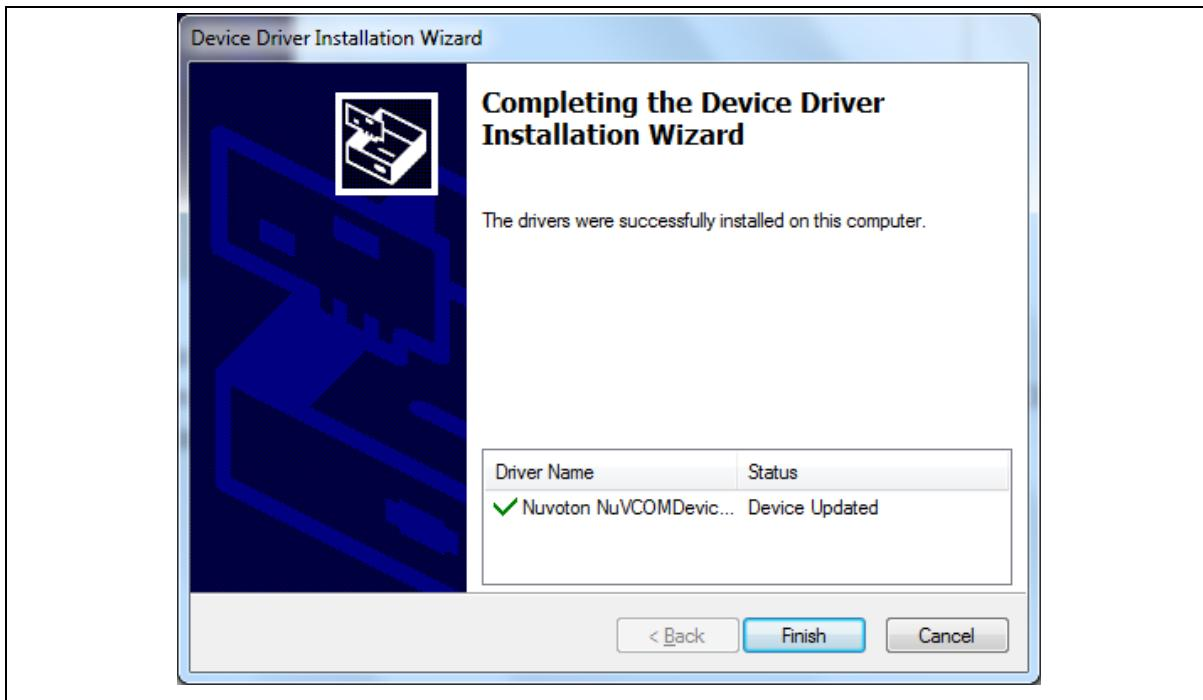

Figure 2-6 WinUSB4NuVCOM Driver Setup (6)
Step 6: Click “Finish” to complete the installation of the USB VCOM driver (Figure 2-6).